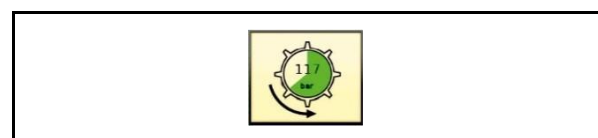

Fig. 156
- In the terminal, the circular area of the symbol "Pick-up milling cutter capacity" (Fig. 156) turns green depending on the load of the pick-up milling cutter and the digit increments.